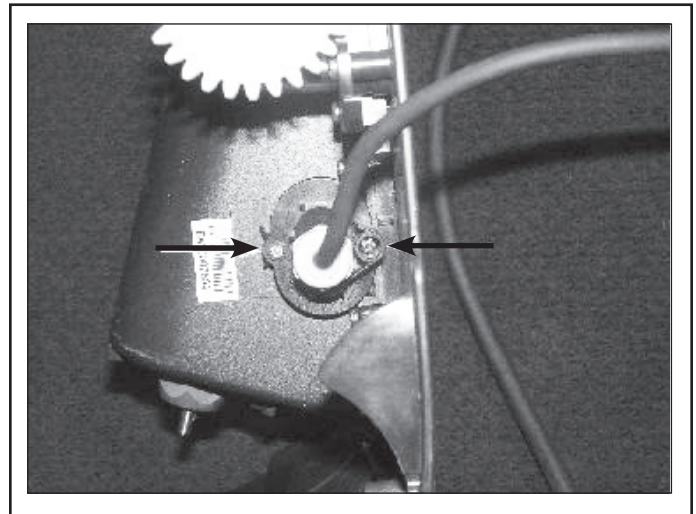

Figure 9. Remove the Floating Cable
5. Disconnect the floating power cable from the motor block by removing the two screws connecting the cable to the block, then pulling the plug away from the block (see Figure 9).